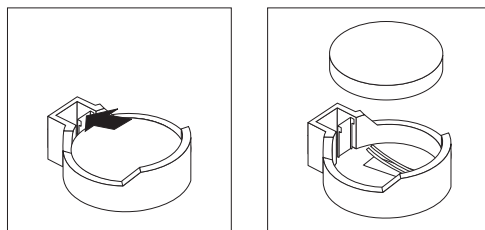

Figure 8. Releasing the battery
- a. Use one finger to press the top of the battery clip away from the battery until the battery releases upward from the socket as shown in Figure 8.